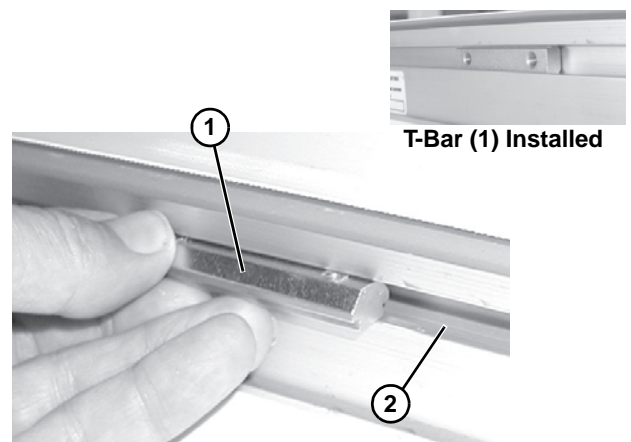
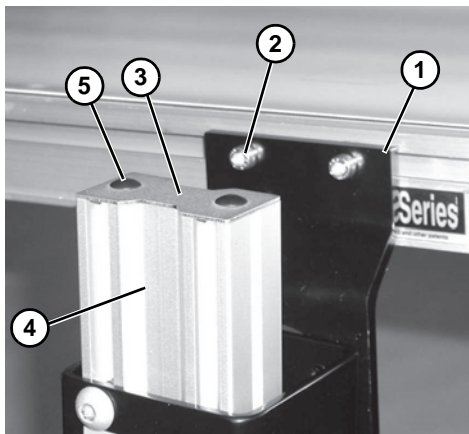

Figure 11
Figure 12
- Install one t-bar (**Figure 11, item 1**) in bottom t-slot on each side of conveyor (**Figure 11, item 2**).
16. Attach pivot bracket (**Figure 12, item 1**) to t-bar (**Figure 11, item 1**) with two socket head screws (**Figure 12, item 2**). Do not tighten screws.
18. Tighten four socket head screws (**Figure 12, item 2**) to 124 in-lb (14 N-m).
22. Attach tube end cover (**Figure 12, item 3**) on stand leg (**Figure 12, item 4**) with two plastic tree rivets (**Figure 12, item 5**).